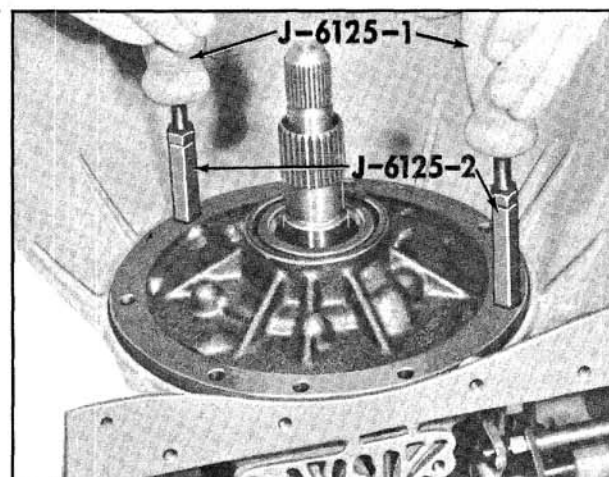

Fig. 6-361 Removing Oil Pump
1. With transmission in vertical position, remove eight pump attaching bolts with "O" ring seals, then install Slide Hammers J-6125-1 with Adapters J-6125-2 into threaded holes in pump. Using slide hammers, loosen pump from case. Remove pump and gasket from case. (Fig. 6-361)